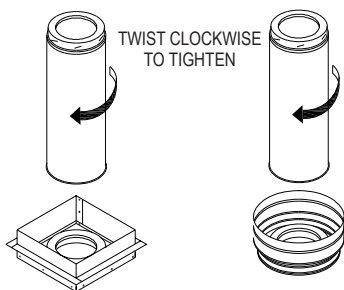

Figure 12
7. Assemble Chimney Sections: Lower the female end of the first Chimney Section in the Support Box (**Fig.12**). It will twist-lock clockwise onto the male end of the Support Box. Turn Pipe Sections firmly clockwise to lock them together. Sheet metal screws are not required, but they may be used to reinforce the connection, if desired. Use only 1/2" (or shorter) sheet metal screws. Do not penetrate the inner liner of the chimney.